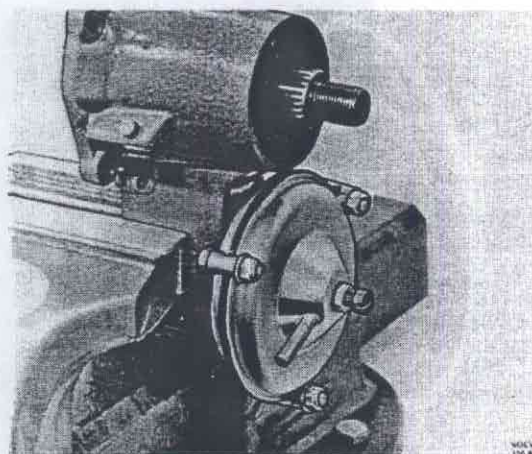

Fig. 43-157. Fitting control mechanism
1. Fix the control mechanism securely in a vice, see Fig. 43-157.